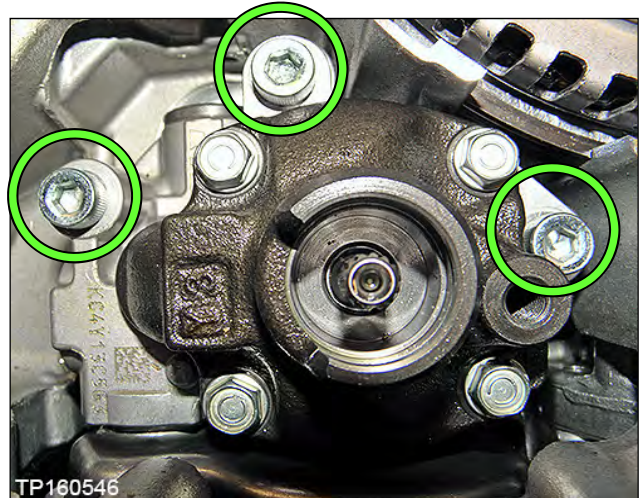

Figure 60
41. Install the new oil pump using three original Allen®-head bolts (Figure 60).